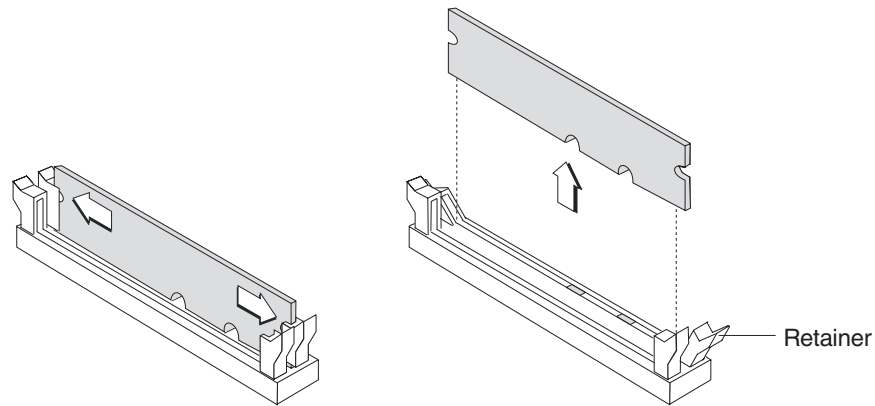

Figure 50. Memory module removal
4. Press the latches away from the module. See Figure 50 on page 73.